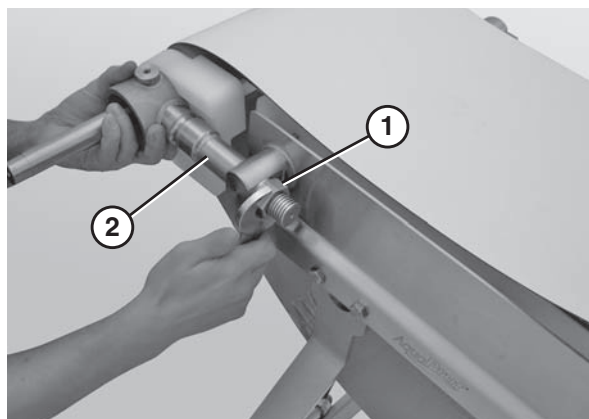

Figure 61
6. Remove the back nut (**Figure 61, item 1**) on both drive tail shafts (**Figure 61, item 2**).